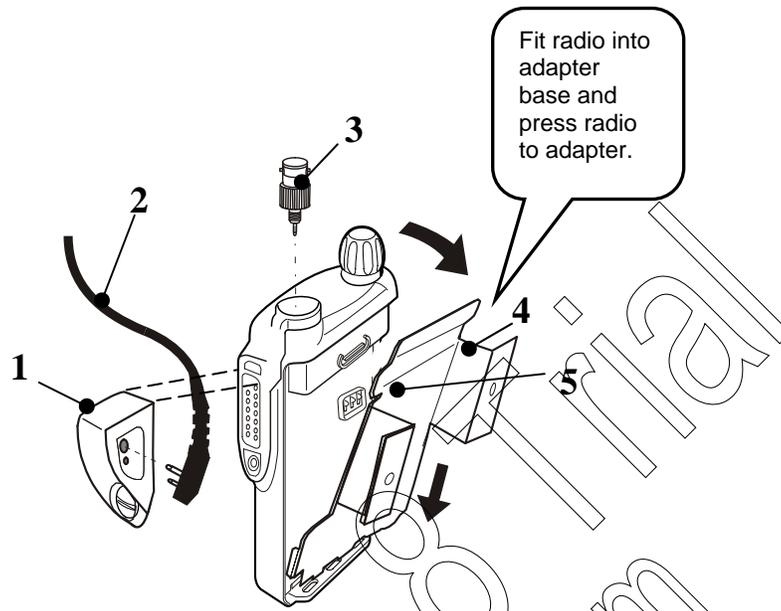

Figure 21-30 GP/HT/PRO Radio Installation
2. Connect the audio accessory adapter (HLN9716) (Item 1) to the radio. See Figure 21-30.